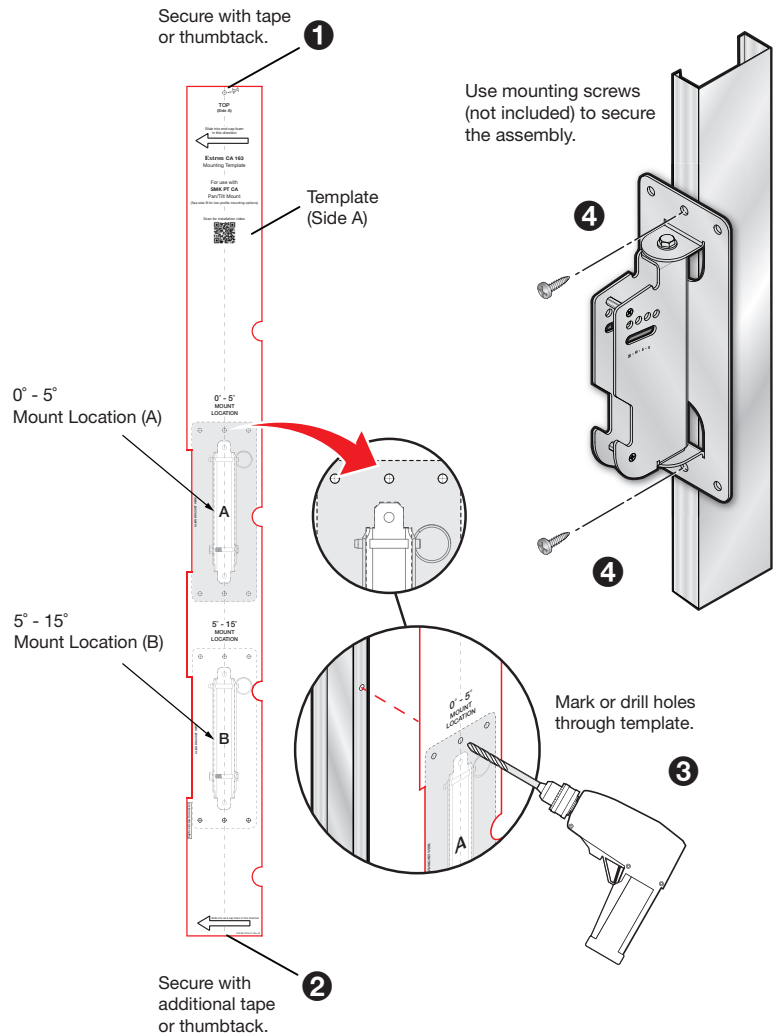

Figure 11. Securing Wall Bracket Assembly
1. Position SMK PT CA mounting template (see **figure 11** on page 5) to the wall where you want to mount the speaker. Use pushpin or tape to secure template to the wall (**1**). Ensure the template is level and secure the bottom with an additional pushpin or piece of tape (**2**).